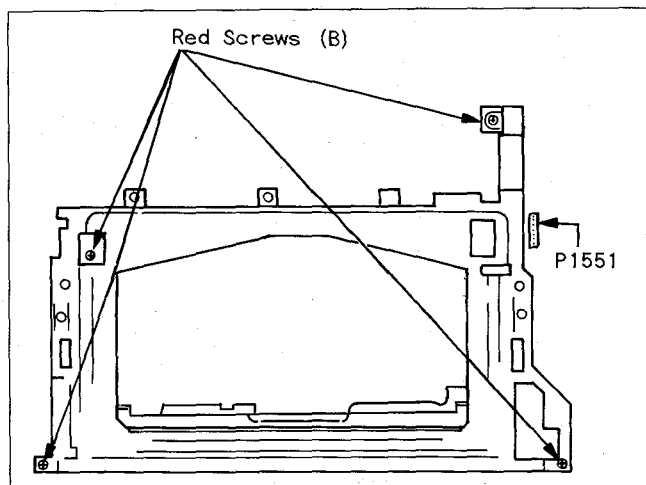

Fig. DA6
6. Reinstall the four Red Screws (B) as shown in Fig. DA6.